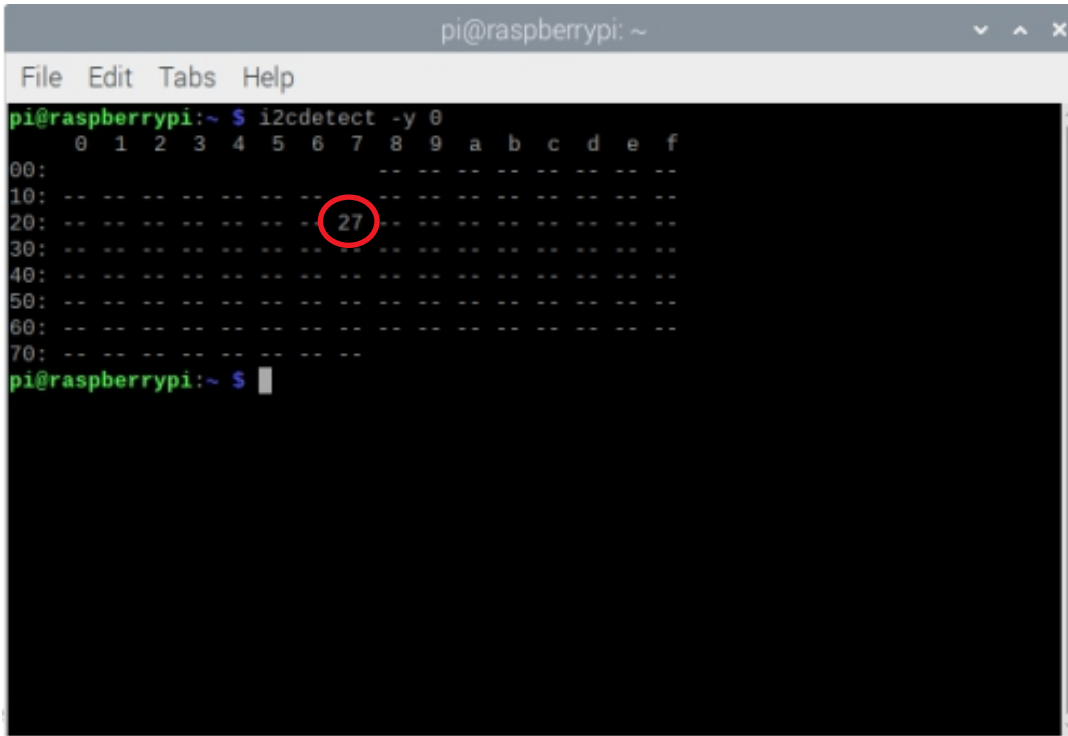

Figure 2: The Transistor Output Module I2C address check result .
4. The result will be similar to the Figure 2 shown below.